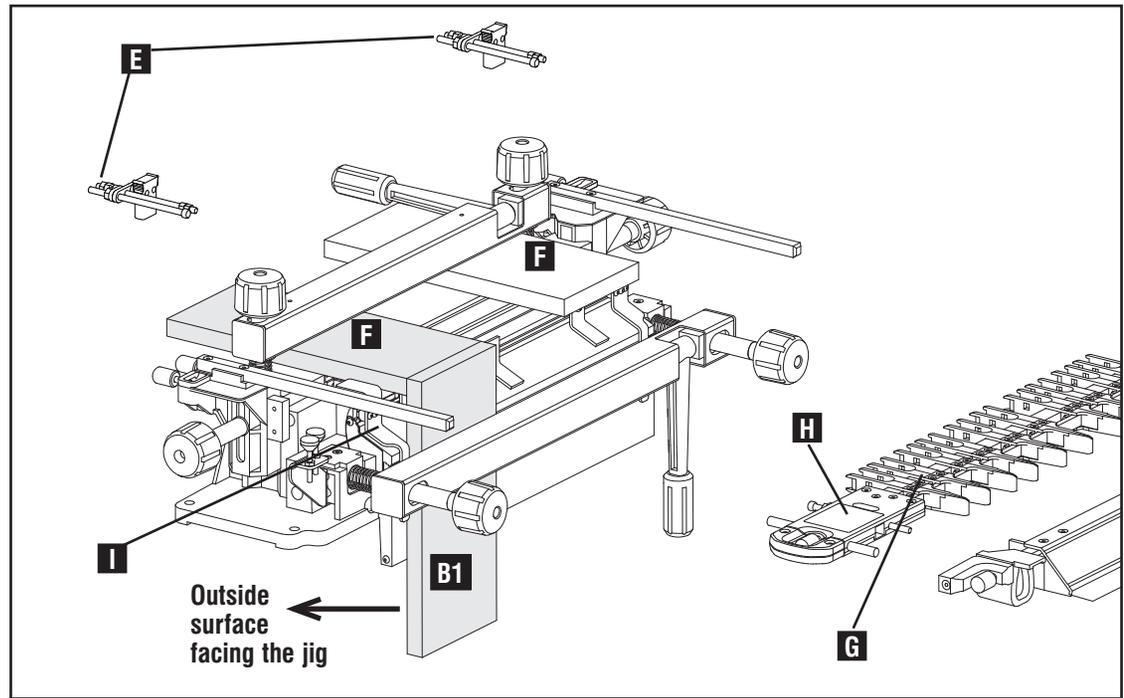

Fig. 16
Use stops (E) Fig. 16 labeled "BOX LEFT" and "BOX RIGHT" for the variable finger template. Use stops labeled "MINI-BOX LEFT" and "MINI-BOX RIGHT" for the mini finger template.
1. Mount horizontal scrap boards (F) Fig. 16 and template (G). Be sure the "B PINS" label (H) is to the left as you face the jig.
2. Vertically mount the first board to be cut (B1) Fig. 16 with the "outside surface" facing the jig. The board should be flush with the left edge guide (I) and tight against the underside of the template (G).
3. To reduce tearout, be sure the horizontal scrap (F) is pulled forward flush with the back of first board B1.